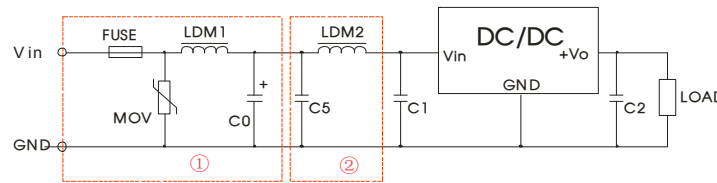

Fig.4 EMC recommended circuit
Note: Part ① in the Fig. 4 is for EMS test, part ② is for EMI filtering; parts ① and ② can be added based on actual requirement.